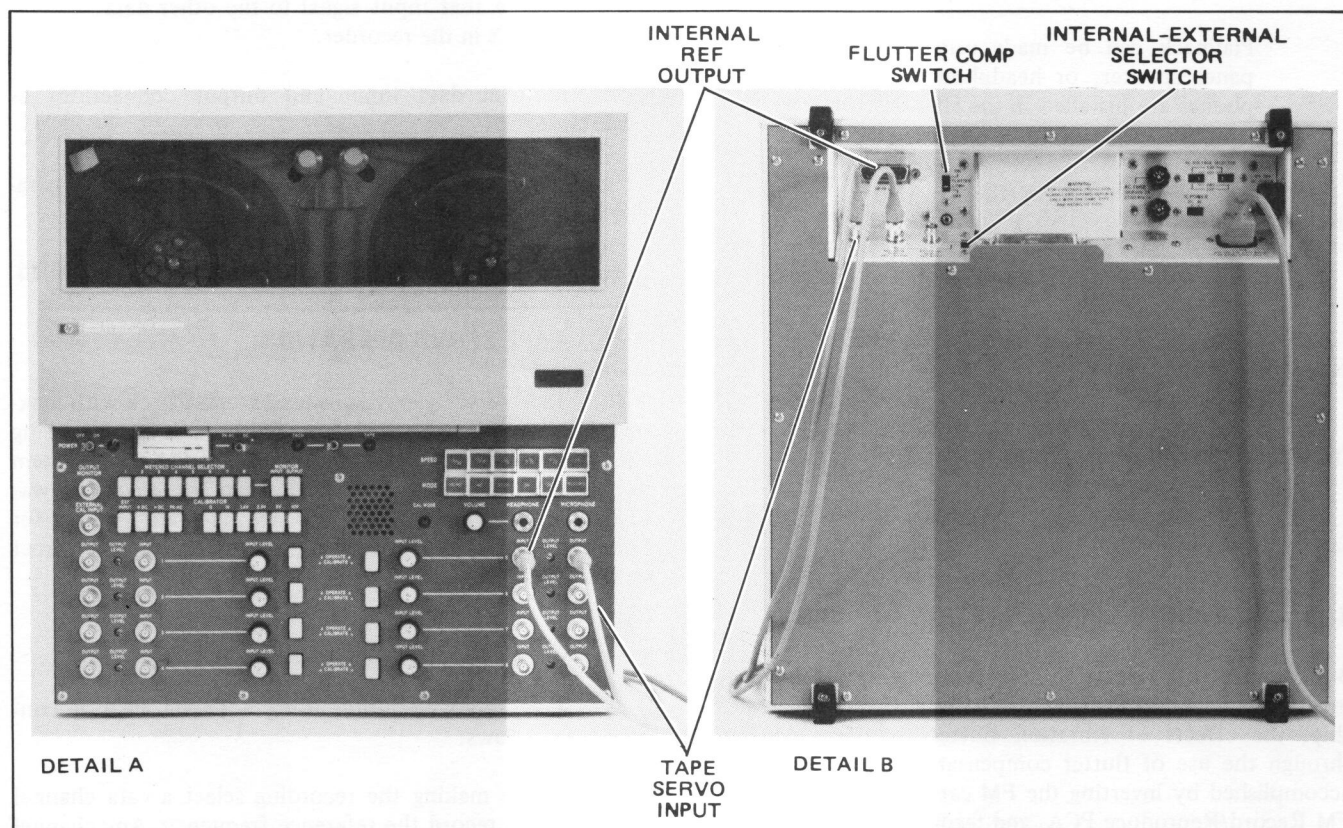

Figure 3-10. Flutter Compensation and Tape Servo Connections
d. On the recorder rear panel, set the FLUTTER COMP slide switch ON (see Detail B, Figure 3-10).
b. Connect a coaxial cable (HP Part No. 10503A) from the **INTERNAL REF OUTPUT** connector on the rear panel to the **INPUT** connector of the Direct PCA selected in step a. Figure 3-10 illustrates a connection to channel 5 in a 3968A.
c. Check position of internal-external switch on rear panel (see Figure 3-10). Should be in the internal (outward) position.
q. Connect a coaxial cable (HP Part No. 10503A) between the **TAPE SERVO INPUT** connector on the rear panel and the **OUTPUT** connector of the Direct PCA selected in step a. (see Figure 3-10).
- f. Connect a coaxial cable (HP Part No. 10503A) from the INTERNAL REF OUTPUT connector on the rear panel to the INPUT connector of the FM PCA selected in step a. Figure 3-10 illustrates a connection to channel 5 in a 3968A.
- g. Check position of internal-external switch on rear panel (see Figure 3-10). Should be in the internal (outward) position.
- q. The recorded tape can now be reproduced in Tape Servo mode. Connect a coaxial cable (HP Part No. 10503A) between the TAPE SERVO INPUT connector on the rear panel and the OUTPUT connector of the FM PCA selected in step a. (see Figure 3-10).